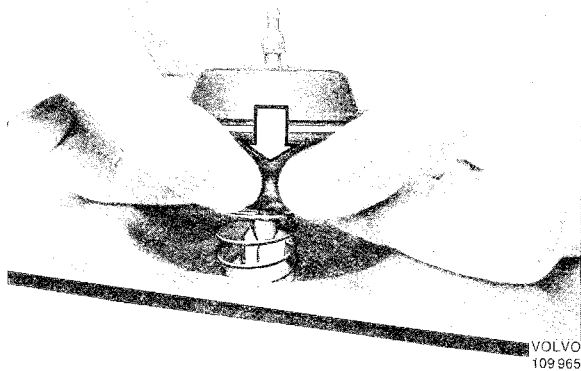

Fig. 8-84. Installing vacuum motor for air intake cover
6. Install the spring. Attach a new vacuum motor to the valve (Fig. 8-84). Use a new plastic lock.